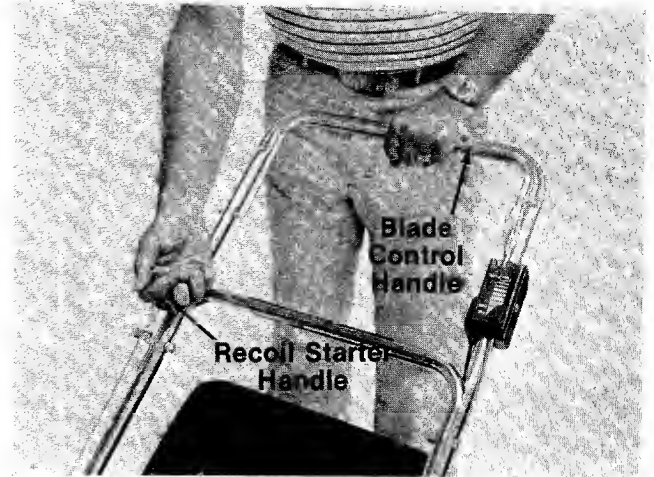

FIGURE 16.
2. Standing behind the unit, depress the blade control handle and hold it against the upper handle as shown in figure 16.